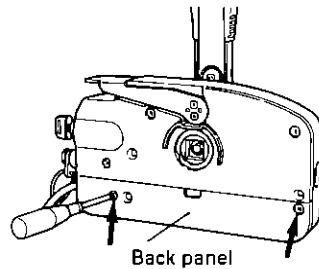

Fig. 4
(2) Installation of the Remote Control Cables (the Box side)
- ① Take off the back panel of the Remote Control Cables by loosening the two screws. (Fig. 4)